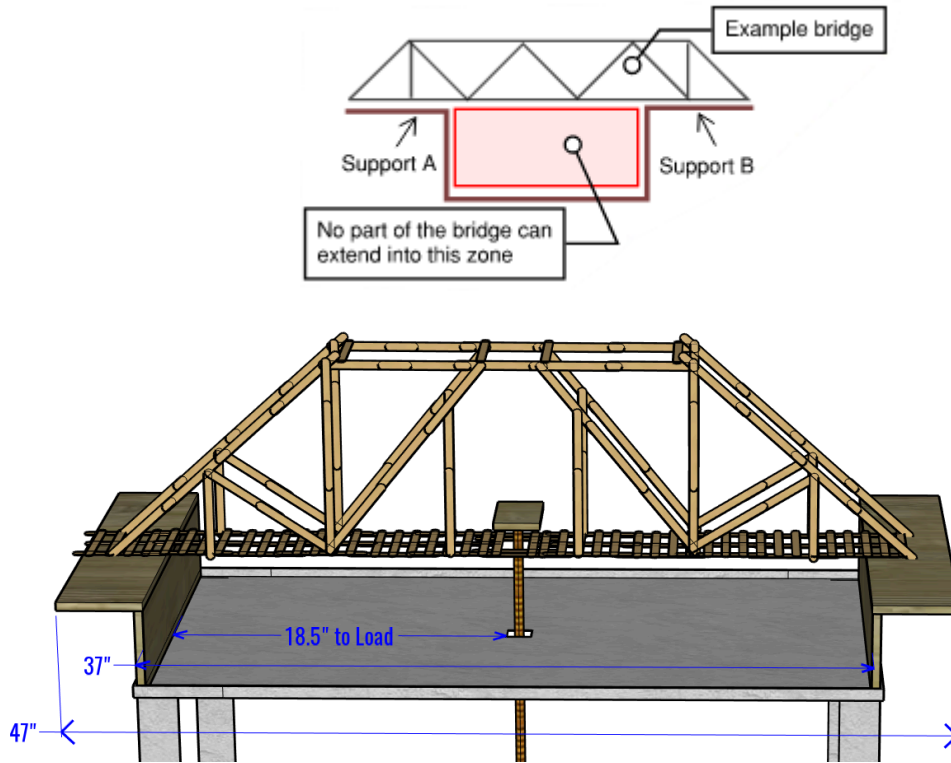

Figure 4 - Profile view of the bridge (not to scale)
- Bridge loading machine supports a minimum span of 37” and a maximum span of 47” See Figure 4 below.